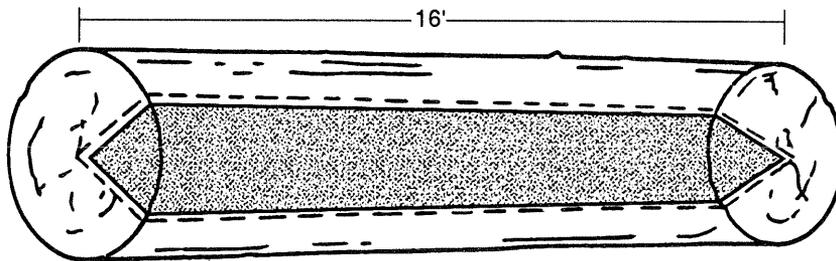

Figure 4 - Pie cut method (deep lightning scar affecting  $\frac{1}{4}$  of log).
*Example:* A 16-foot log 20 inches in diameter has a gross scale of 280 board feet. A lightning scar running the entire length of the log has been burned out (fig. 4). It can be enclosed in a sector (pie cut)